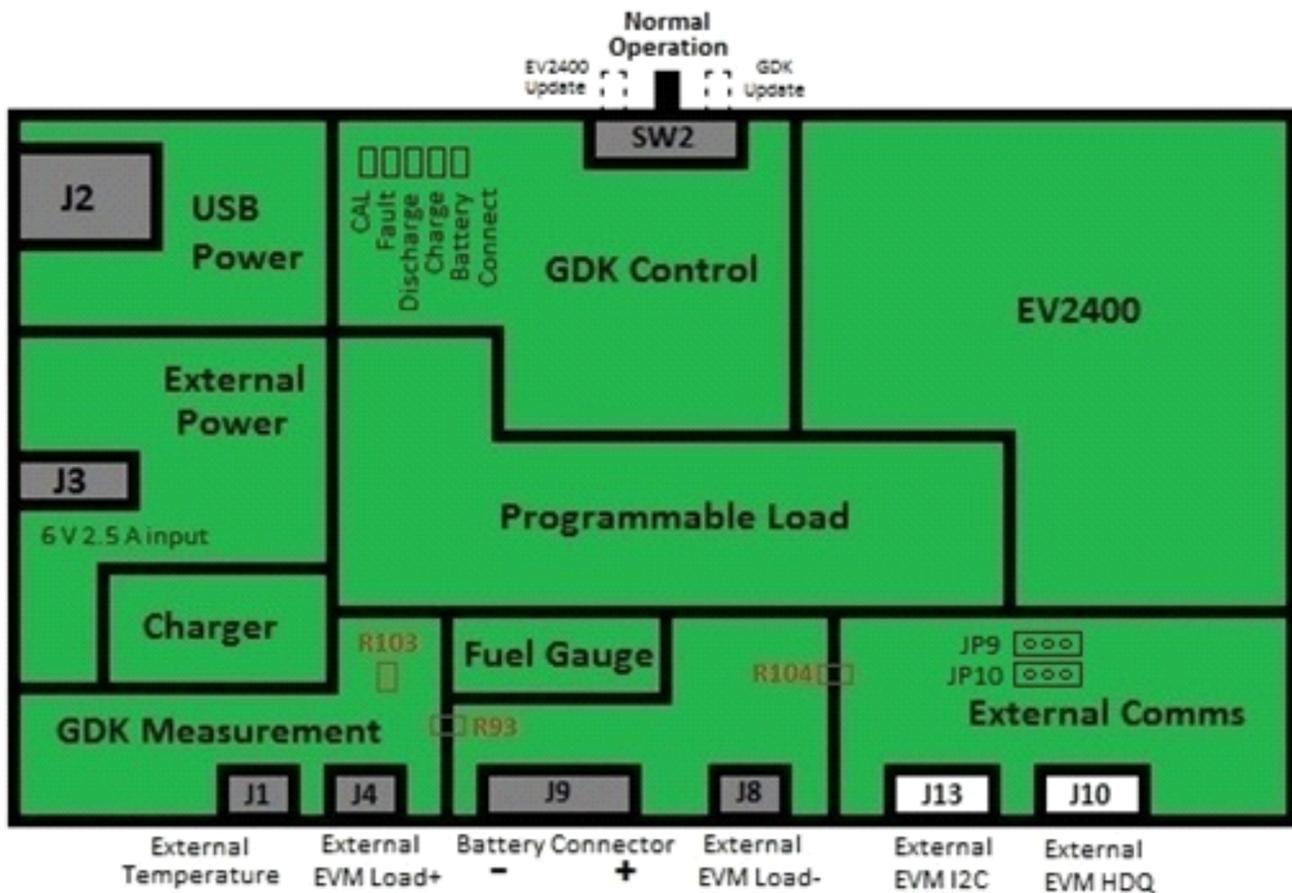

Figure 10. GDK Board Outline with FW Update Switch Positions
5. Place SW2 in the far left position for a GDK firmware update. Refer to Figure 10 for the SW2 positions.
17. Place SW2 in the middle position for normal operation. See Figure 10 for reference on SW2 positions.